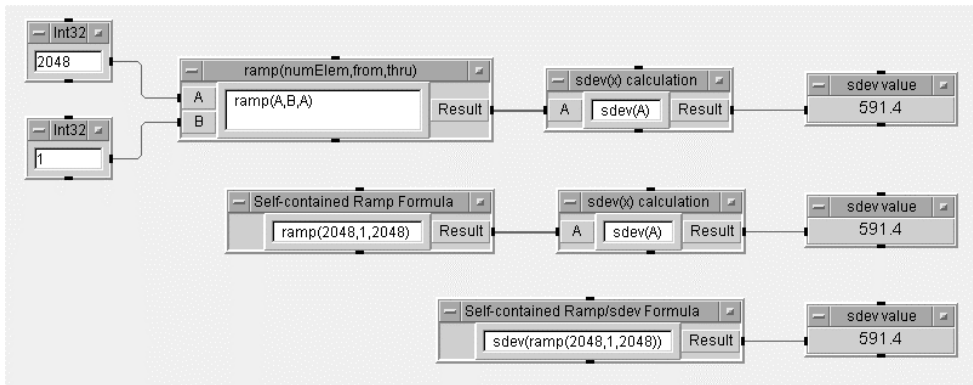

Figure 5.7. Three techniques for calculating standard deviation
- Note:** The standard deviation is computed from the data at the sdev(A) input pin. The ramp and data inputs are nested into a single Formula Object. This approach eliminates two integer-objects.
- 27. Save this program again as LAB5-2b; run this program. See Figure 5.7 for a comparison of three techniques for calculating a parameter such as standard deviation. Our choice for data input was the Ramp function.